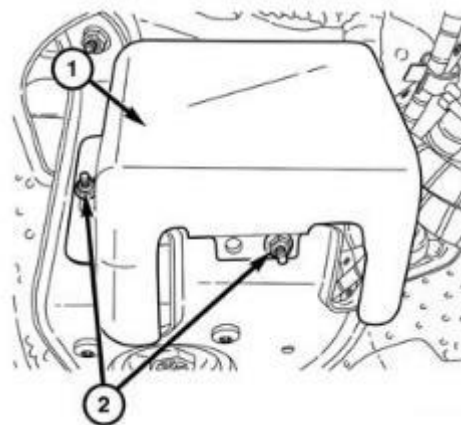

Figure 22 – Fuel Filter Shield
56. Remove the nuts (2) and the fuel filter shield (1) (Figure 22).